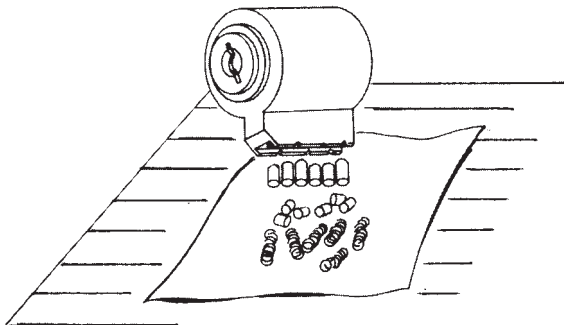

Figure 9.23 After the slide is withdrawn, remove springs, pins, and top pins. (Emhart Corp.)
2. Remove the springs, drivers, and pins (Fig. 9.23).